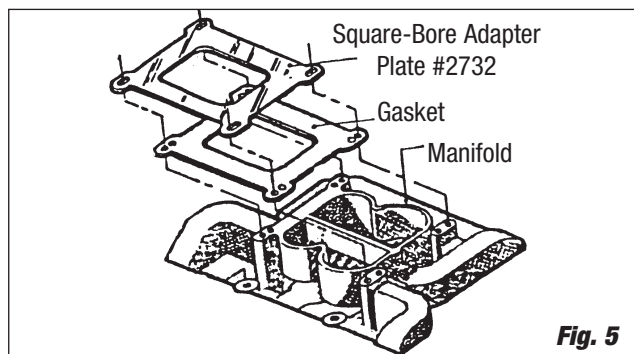

Fig. 5
5. **You must use Edelbrock Adapter #2732** when installing a Performer Series carburetor on certain Edelbrock intake manifolds. In those applications, install the adapter as shown (**See Fig. 5**).